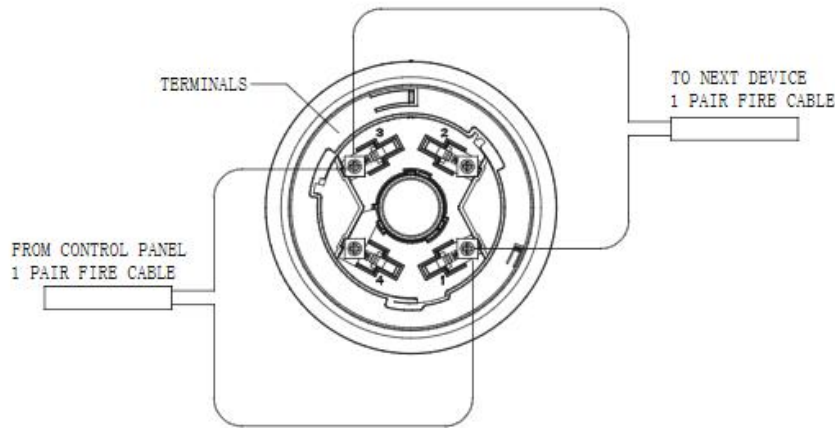

Fig.2
1. Wiring: See Fig.2. The Normal Base is subject to a two-wire non-polarity connection: Terminals 1 and 3 are respectively connected with the terminals L1 and L2 of the loop bus of a compatible fire alarm control panel. Terminals 2 and 4 are respectively connected with the terminals 2 and 4 of AW-D302 (Heat Detector) or AW-D301 (Smoke Detector).